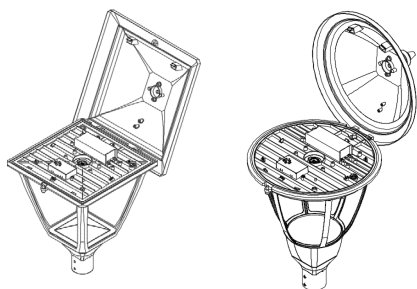

Fig.1
1. Loosen the screw to open the top cover as shown in Fig1.